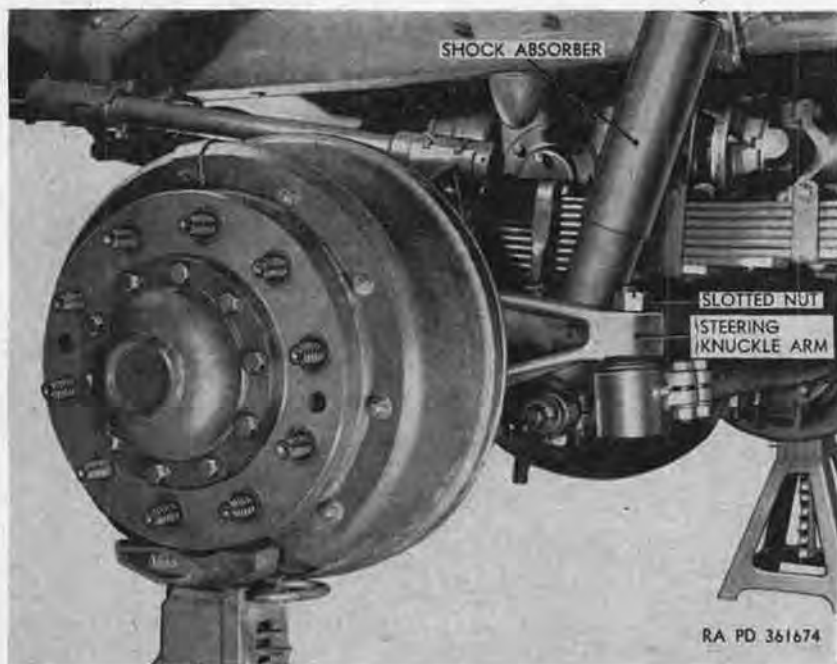

Figure 219. Left end of front axle assembly with wheel and tire removed.
- (1) *Removal* (fig. 219). Place truck on a level surface and apply handbrake. Raise front axle enough to take weight of truck off front wheels. Remove cotter pin and nut from stud at each end of tie rod. Remove tie rod end studs from left and right steering knuckle arms, and remove tie rod assembly from truck.
- (2) *Installation* (fig. 219). Insert tie rod end studs in holes in steering knuckle arms, and install two slotted nuts, one on each stud, and tighten. Install cotter pin in end of each tie rod end stud. Lower front wheels.